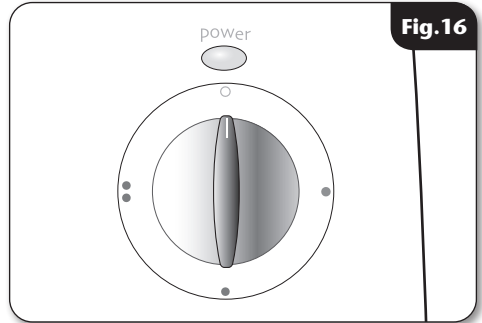

Fig.16
- Before turning on the electric and mains water supplies to the shower, make sure that the power selector is at the **STOP** position (**fig.16**).